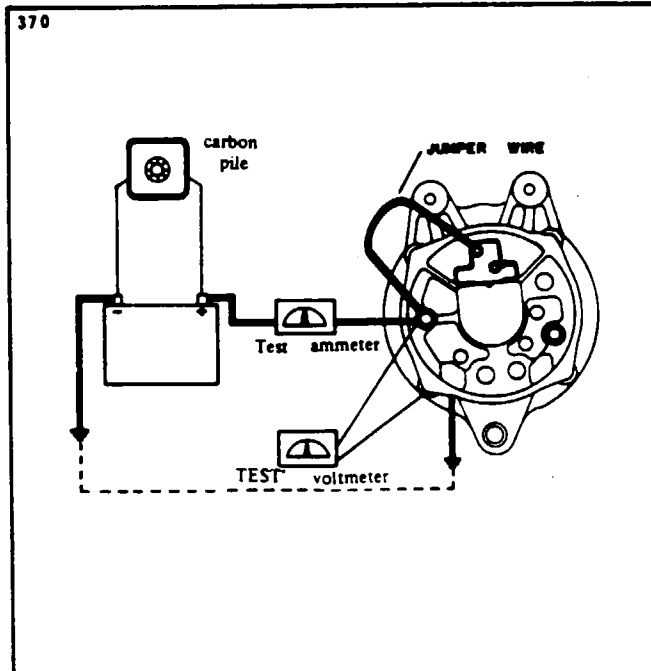

Figure 11-15. Testing Alternator
a. Wiring connections for bench testing the alternator are shown in Figure 11-15. Refer to the individual specification pages for output test figures. Adjust the carbon pile, if necessary, to obtain the specified voltage.
a. Wiring connections for bench testing the alternator are shown in Figure 11-15. Refer to the Alternator Service Test Specification paragraph for output test figures. Adjust the carbon pile, if necessary, to obtain the specified voltage.